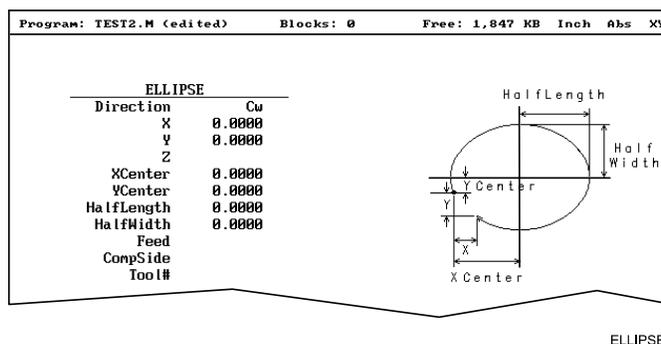

Figure 5-26, ELLIPSE Graphic Menu
3. Highlight **Ellipse**, and press **ENTER** to display the **ELLIPSE** Graphic Menu. Refer to **Figure 5-26**.